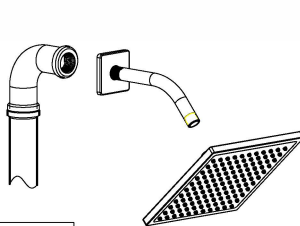

Fig .5
- 4 A. Install shower assembly(see Fig. 5).